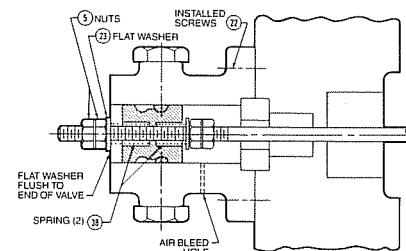

Figure 7-21, Pilot air valve components installed.
Note: Be sure housing is positioned on air end plate so its air bleed hole points downward toward air end plate's mounting bracket (32). See Figure 7-21.
7.3.6 Lubricate second spring (38) with Molykote® and assemble on shifting rod. Install flat washer (23) and second pair of nuts (5) on shifting rod to retain spring in shuttle. With shifting rod pulled outward to maximum protrusion, adjust nuts so that face of washer is flush with end of valve housing. Torque nuts tightly together. See Figure 7-21.